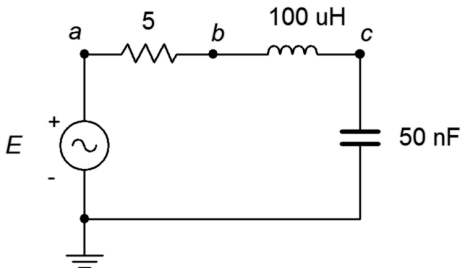

Figure 8.2
14. For the circuit shown in Figure 8.2, determine the resonant frequency, system Q and bandwidth. Assume $R_{coil} = 0\ \Omega$. If the source is $10\ \text{volts}$, determine the capacitor voltage at resonance.